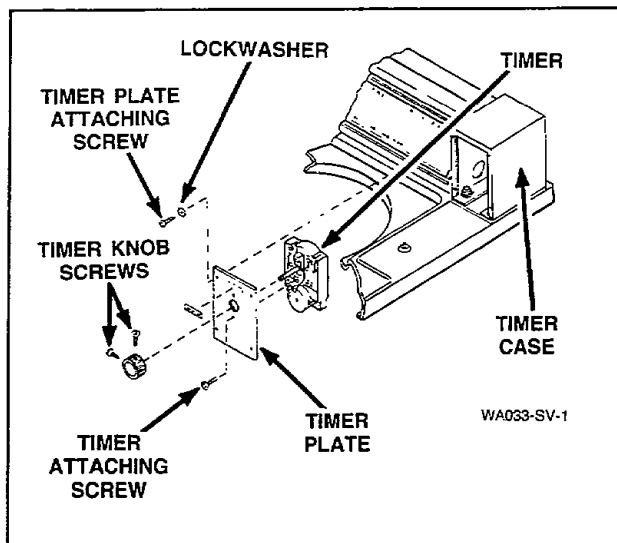

Figure 10
9. TIMER ASSEMBLY — Nonmetered Models (Refer to Figure 10)